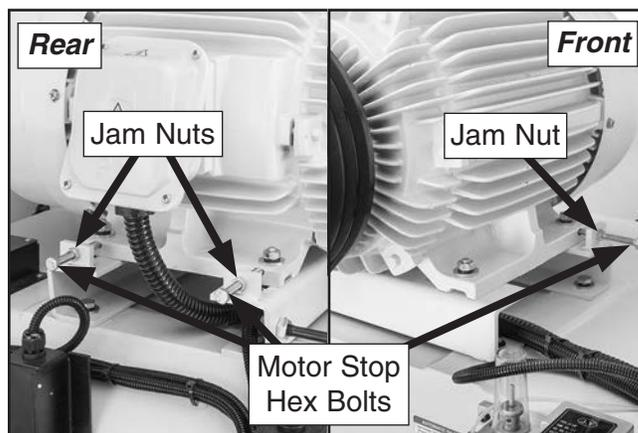

Figure 89. Location of upper cutterhead motor positioning hardware.
5. Loosen jam nuts on motor stop hex bolts (see **Figure 89**).